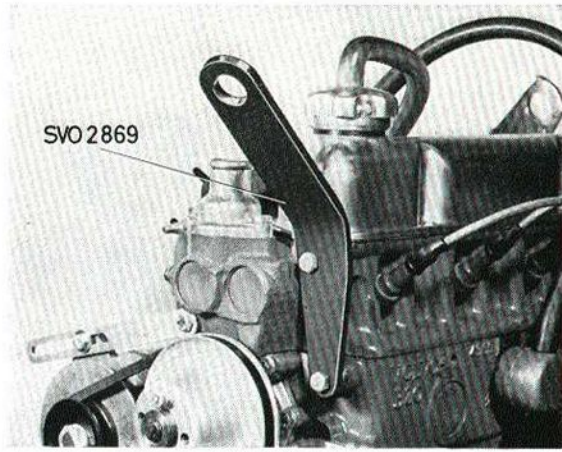

Fig. 2-18. Lifting lug on engine front end
10. Fit lifting arm 2867 to the front end of the engine as shown in Fig. 2-18 and lifting arm 2870 on the engine rear end as shown in Fig. 2-17. Prop up under the vehicle.
14. Fit lifting arm 2870 in the rear end of the engine (compare Fig. 2-17) and lifting arm 2869 in the front end (compare Fig. 2-18).